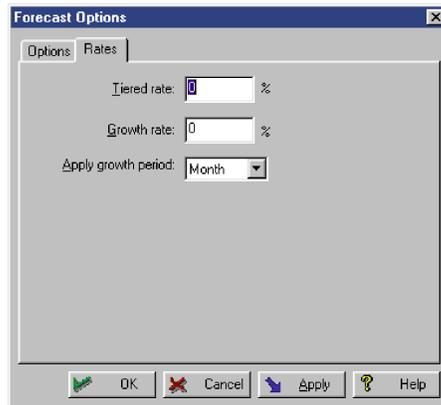

Figure 6.7 Forecast Options dialog box: Rates tab
- 10 In the **Forecast Options** dialog box, click the **Rates** tab (see Figure 6.7).